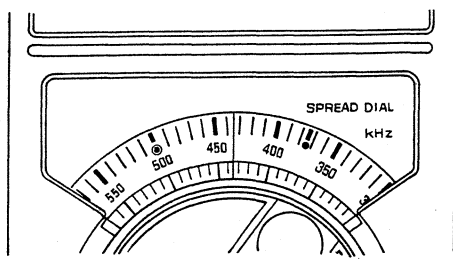
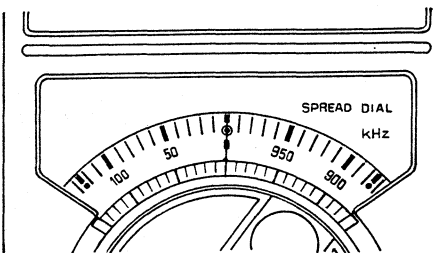

Fig. 23
Fig. 24
1. Set tuning capacitor to maximum capacity (minimum frequency), tuning knob to fully counter-clockwise, spread dial to 435 kHz, as shown in fig. 23. Then set tuning knob to clockwise and set spread dial to 0 kHz, as shown in fig. 24.